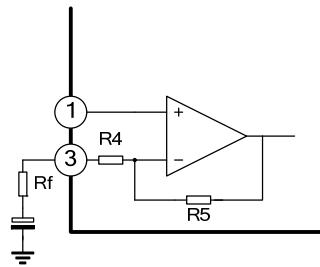

Figure 2
2. Adjustment of the voltage gain (Figure 2)
The voltage gain is fixed at $G_v=40\text{dB}$ by the resistors(R4 and R5) in IC. Its reduction is possible through adding Rf as shown in Figure 2. In this case, the voltage gain is obtained by the following equation: $G_v=20\log(R5+R4+R_f)/(R4+R_f)$. It is recommended to use this IC with the voltage gain of $G_v=28\text{dB}$ or over.